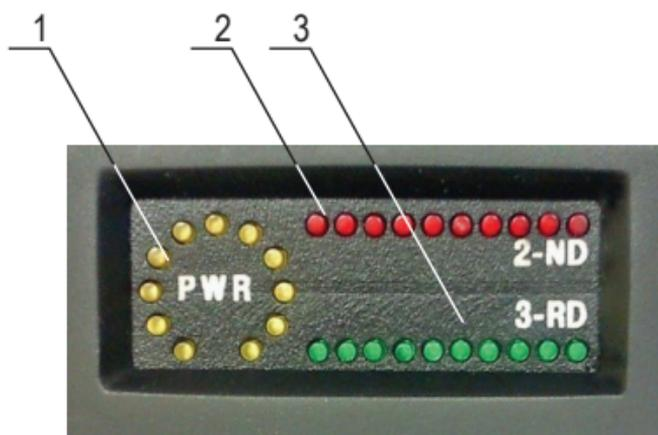

Fig. 3.
- Indication of the transmitter power level (1) as well as of the 2nd (2) and 3rd (3) harmonics levels (Fig. 3).